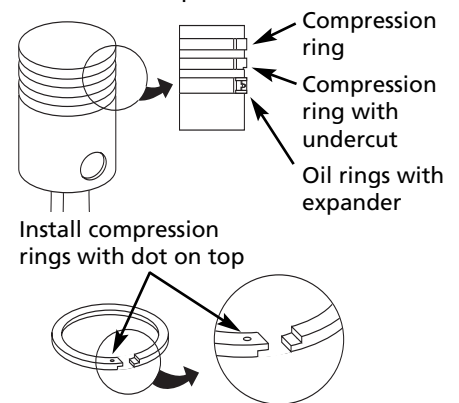

Figure 1
6. Install new piston rings as shown in Figure 1. **NOTE:** Ends of expander ring must be butted together, **DO NOT** overlap.